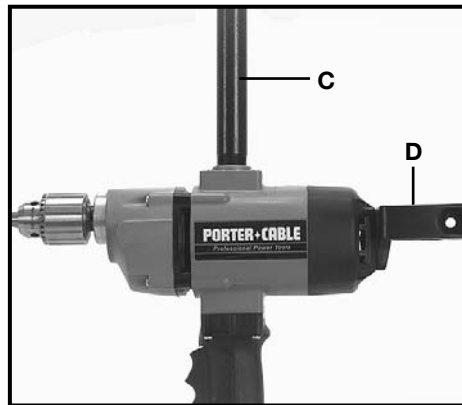
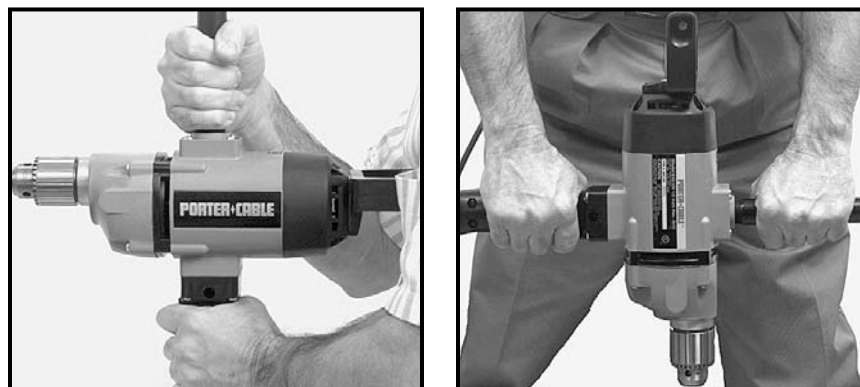

Fig. 2
Fig. 4
A spade handle (D) Fig. 2, is furnished with the tool. This handle may be assembled in any one of four positions on the back of the drill. Place the washer on the screw, insert screw through hole in spade handle, locate handle as desired, and tighten screw securely. The spade handle was designed to carry or transport the tool only. NEVER hold the tool by the spade handle during drilling operations.
An auxiliary handle (C) Fig. 2, is supplied with some models. This handle screws directly into the drill housing providing complete control of the drill.
It is strongly recommended that the auxiliary handle be used and tool held as illustrated in Fig. 4 during all drilling operations.
**⚠ WARNING:** The front end of drill may be made live if the tool drills into live wiring in a wall. TO PREVENT ACCIDENTAL ELECTRICAL SHOCK, DRILL MUST BE HELD AS SHOWN IN FIG. 4.
An auxiliary handle (C) Fig. 2, is supplied with each drill. The auxiliary handle should be used during all drilling operations: firmly grasp auxiliary handle with one hand and switch handle with the other hand as shown in Fig. 4.